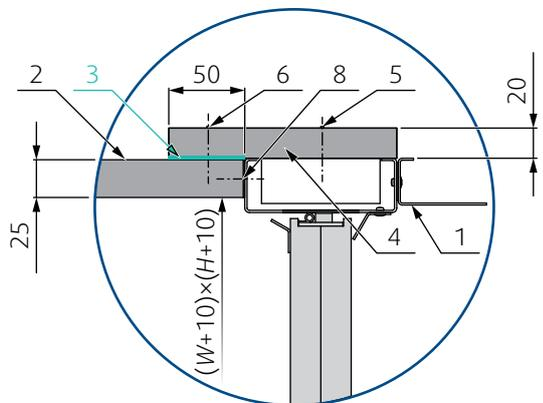
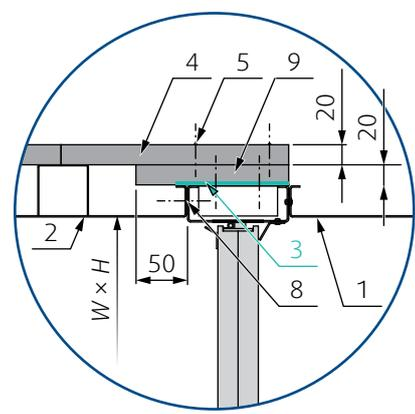

Fig. 36: Cross-section of connection to 25 mm thick board duct
Fig. 41: Cross-section of connection to a board insulated sheet metal duct with the K1-S-SA2L accessory
1. Prepare the duct connection or opening as per  Fig. 36 - Fig. 41, clean and flatten the connecting surface.
2. Apply a fire resistive coat (3) on the connection surfaces as depicted in Fig. 36 - Fig. 41.
4. From boards (4 and 7) create a collar overlapping the connection as depicted in Fig. 36 - Fig. 41.
5. Fix the overlapping collar to the damper with screws (5). Fix the collar to the duct by using screws as per instructions of duct system manufacturer.